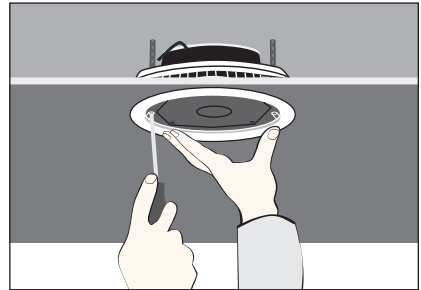

Fig. 6b
- c) While holding the speaker in place, alternately tighten each screw until the speaker is firmly installed. (Figs. 6b and 7b)